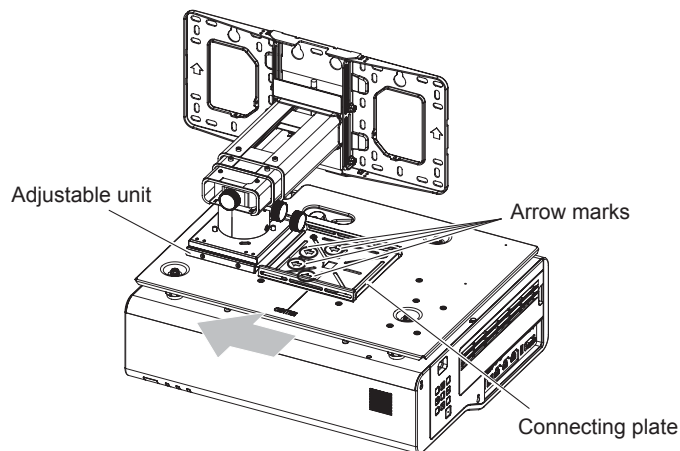

Fig.2
- 2) **With the projector attached, slide the connecting plate on the projector mount bracket kit into the adjustable unit of the wall mount bracket. (Fig.2)**